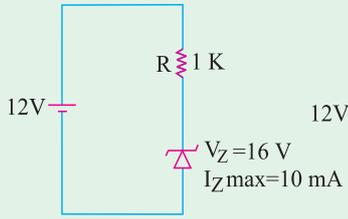

Fig. 54.36
1. Is the ideal Zener diode shown in Fig. 54.36 properly biased ? If not, explain why ? [No]